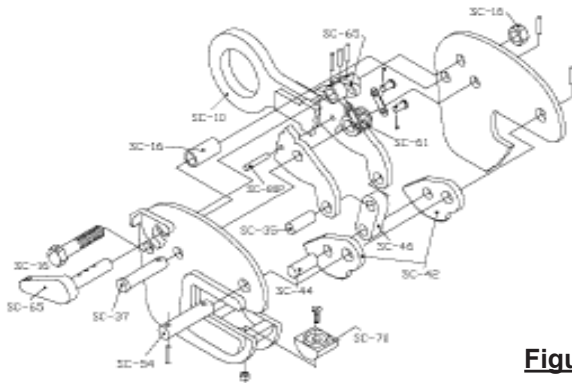

Figure 1
3. Inspect gripping cams [SC-50 or SC-42, Fig. 1] and gripping pad [SC-70, Fig. 1] for wear and/or damage. Make sure gripping surfaces are sharp and clean.
6. For model VL-BC, inspect lock spring (SC-61, Fig. 1) for tension. To do this, lock the clamp in the closed position and push on the lifting shackle. There should be strong resistance to your pressure on the lifting shackle.
4. Inspect gripping cams (SC-50 or SC-42, Fig. 1) and gripping pad (SC-70, Fig. 1). Make sure they are sharp and clean. Do not attempt to sharpen these yourself. If gripping surfaces are worn and/or damaged, replace them with genuine Safety Clamps' parts.
- a) Remove roll pins from the SC-54 pin and SC-37 pin (Fig. 1), and remove the SC-54 and SC-37 pins from the body.
- b) For the VL-BC model, remove the roll pins from the lock assembly SC-65 (Fig. 1). Pull the handle out and remove the lock (SC-65) and spring (SC-61, Fig. 1).
- d) Grip the lifting shackle SC-10 (Fig. 1) and pull inside assembly out the back of the clamp.
1. Refer to the clamp diagram (Fig. 1) and reverse the disassembly process described on the previous pages.